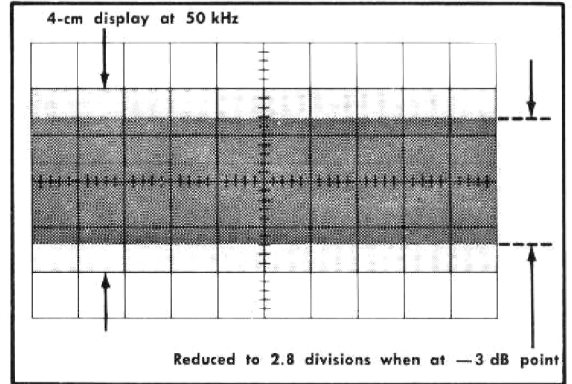

Fig. 6-20. Double exposure to show CRT display when checking the frequency response.
- d. Increase the output frequency of the Constant Amplitude Signal Generator until the display amplitude has decreased to 2.8 cm. See Fig. 6-20.